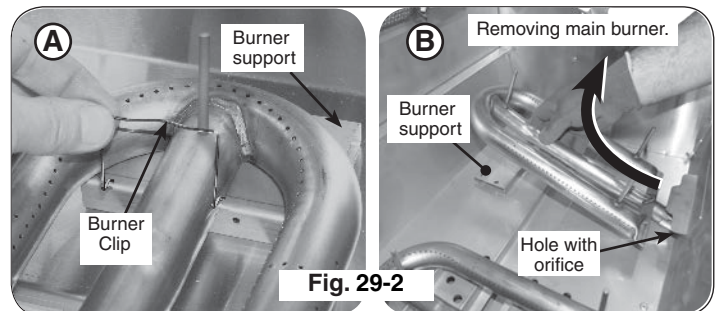

Fig. 29-2
2. Locate the burner. Slightly pinch and remove the burner clip (located over the rear center of the burner) from the burner support and set aside (see Fig. 29-2, A).
3. Carefully lift the burner from the burner support and out from the hole in the forward fire wall (see Fig. 29-2, B).
4. Use a 1/4" hex deep socket nut driver to remove the exposed orifice. Access it through the hole in the forward firebox plate inside the grill (Fig. 29-2). Check orifice. If needed, replace it with the correct orifice for the new gas.